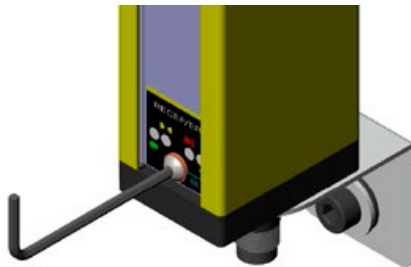

Figure 6.5: Remove front screw for programming
9. Replace the screw to protect the programming (See Figure 6.5 on page 31). At the end of programming the blue LED will flash according to the programming 1, 2 or 3 times respectively for programming with 1, 2 or 3 beams.